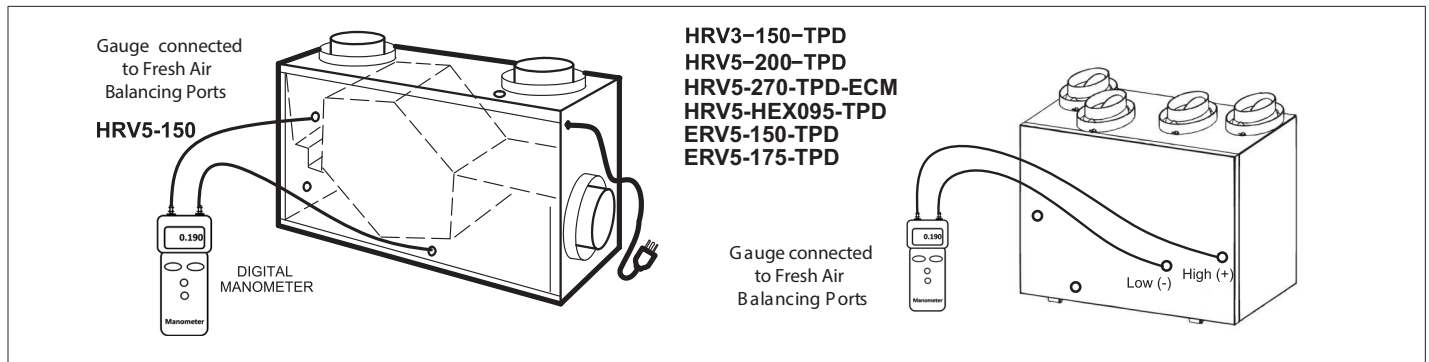

Figure 50. Door Balancing Ports - Fresh Air
6. Measure Fresh air insert the two rubber fittings from the gauge to the FRESH AIR Balancing Ports (see Figure 50 on page 41). Seal the STALE AIR Balancing Ports (upper right and lower left) with tape. Record your reading.